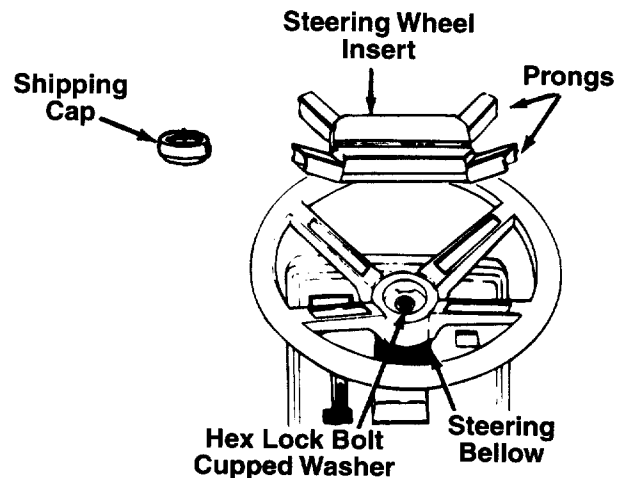

FIGURE 1.
1. The hardware for attaching the steering wheel has been packed inside the steering wheel. Carefully pry off the steering wheel insert and shipping cap and remove the hardware. Discard the shipping cap. See figure 1.
2. Remove the steering bellow from the lift lever on the right hand side of tractor or the screw pack. Place steering bellow over the steering shaft extending through the dash. See figure 1.
4. Place the washer with the cupped side down over the steering shaft. Secure with hex lock bolt. See figure 1.